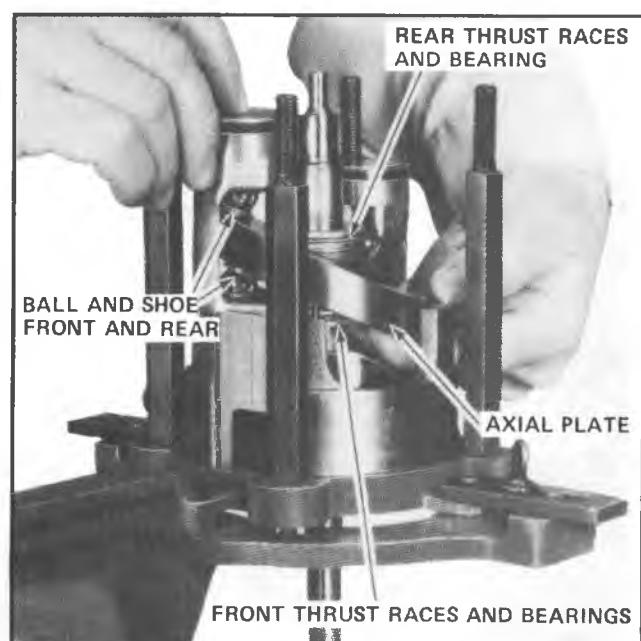

Fig. 51--Installing 2nd A-6 Piston
4. Repeat this operation for Pistons No. 2 and No. 3 (Fig. 51).